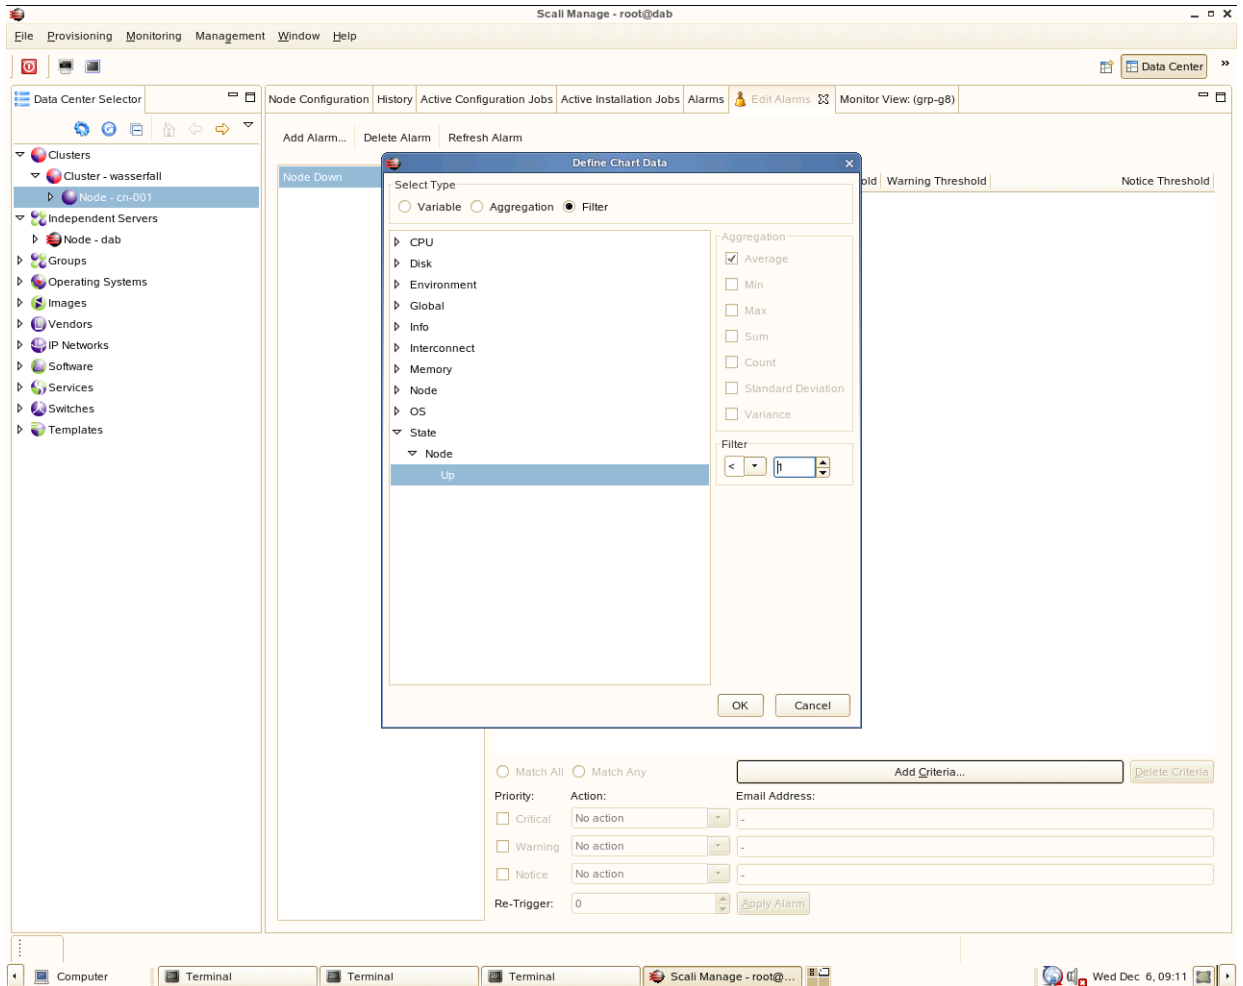

Figure 2-17 Define Chart Data Popup Example (Filter Selected)
- Another popup presents itself. For this example we picked a “Filter” criteria for the node status. See Figure 2-17 on page 41.